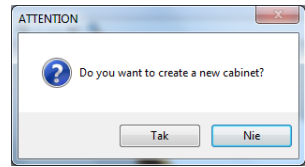

Fig. 183 – request for confirmation
- you will see a message (Fig. 183), and when you click **Yes** a new cabinet will be created, which can be freely modified using the features described above.